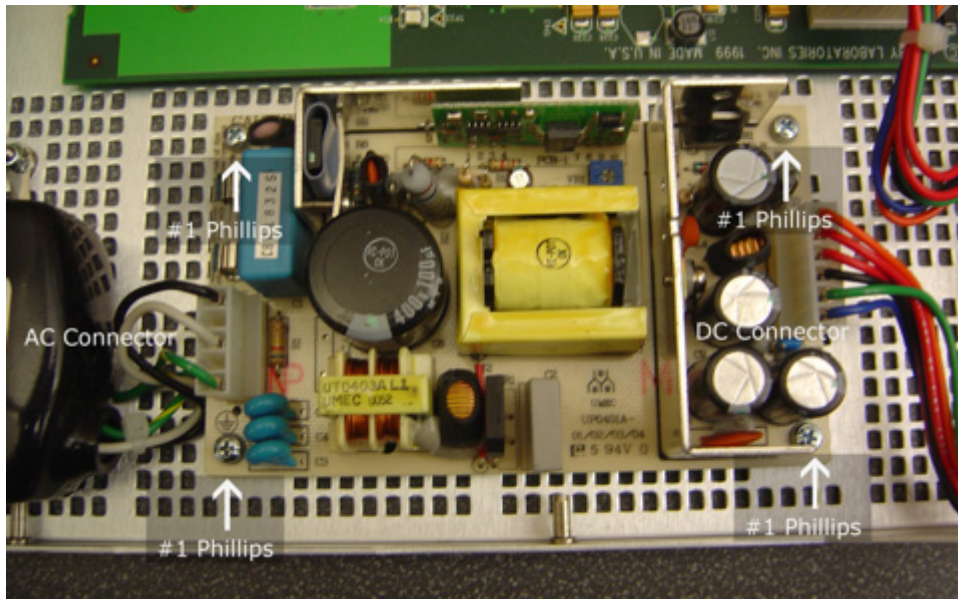

Figure 6 DC and AC Connectors and Attaching Screws
6. Unplug the white DC and AC connectors, shown in Figure 6, from the ends of the power supply module.
7. Remove the four Phillips head screws, shown in Figure 6, that hold the power supply module in place.